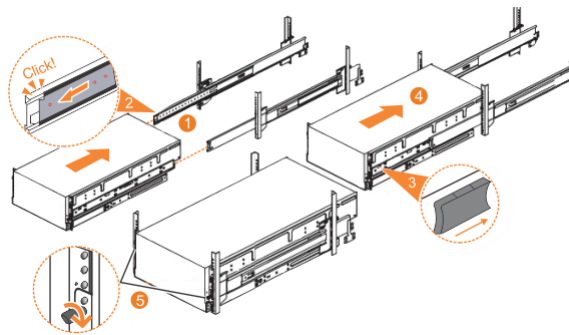

Figure 56. Replacing the 5U enclosure in the rack
1. Fully extend the left and right drawer sections from the rack to lock the rails in the extended position (1 in Figure 56 on page 91).
2. Ensure that the ball bearing retainer clicks into place inside the front of the left and right drawer sections (2 in Figure 56 on page 91).
6. Locate the left and right blue release tabs near the front of the enclosure. Press both release tabs forward to unlock the drawer mechanism (3 in Figure 56 on page 91).
7. Push the enclosure firmly into the rack (4 in Figure 56 on page 91).
8. Tighten the locking thumb screws (5 in Figure 56 on page 91) to secure the enclosure in the rack.